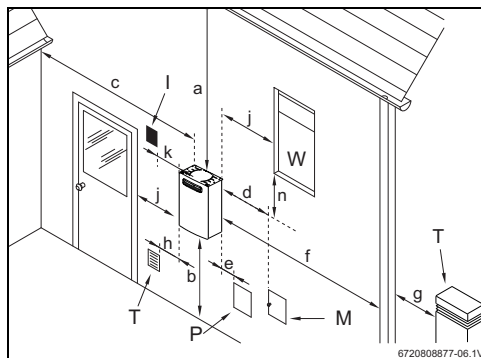

Fig. 5 Minimum flue clearances (use as a guide only, always refer to AS5601
- ▶ Respect the minimum installation clearances indicated in fig. 5 and table 6.
- Install the appliance in accordance with the minimum installation clearances indicated in Fig. 5 and table 6, according to AS5601.